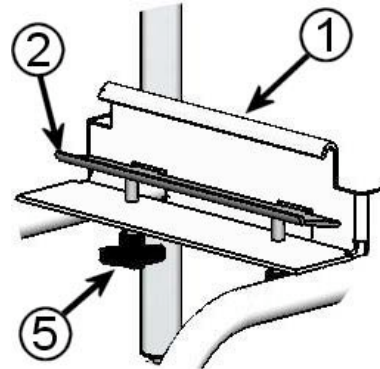

Fig. 2
- 3 Unthread the two clamping knobs (5) from the bottom, just far enough to keep them from falling out. Fig. 2